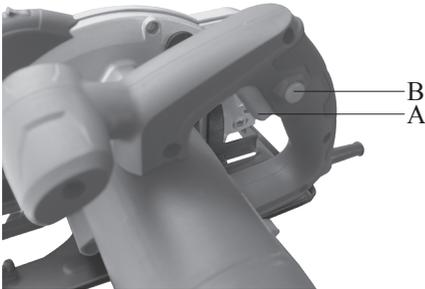

Fig. 2
7.1 Switching on/off (Fig. 2)
| <ul style="list-style-type: none"> • The circular saw makes a lot of noise and/or does not run smoothly. | <ul style="list-style-type: none"> • The carbon brushes are worn. | <ul style="list-style-type: none"> • Replace the carbon brushes (Fig. 2) |